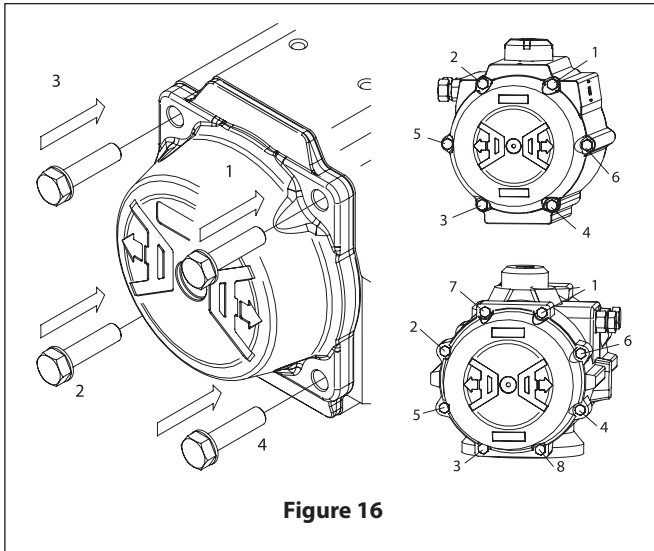

Figure 16
B. Apply grease to the end-cap o-ring seals, using the recommended o-ring-area grease listed in (Table 2). Fit the end-cap o-ring seals (14) into the groove in each end cap (30, 31).
C. Fit the end caps (30) onto the body (50), verifying that the o-ring seals (14) remain in the grooves.
D. Insert all end-cap screws (13) and hand tighten. Complete tightening by following the sequence indicated in (Figure 16), using torques listed in Table 4.